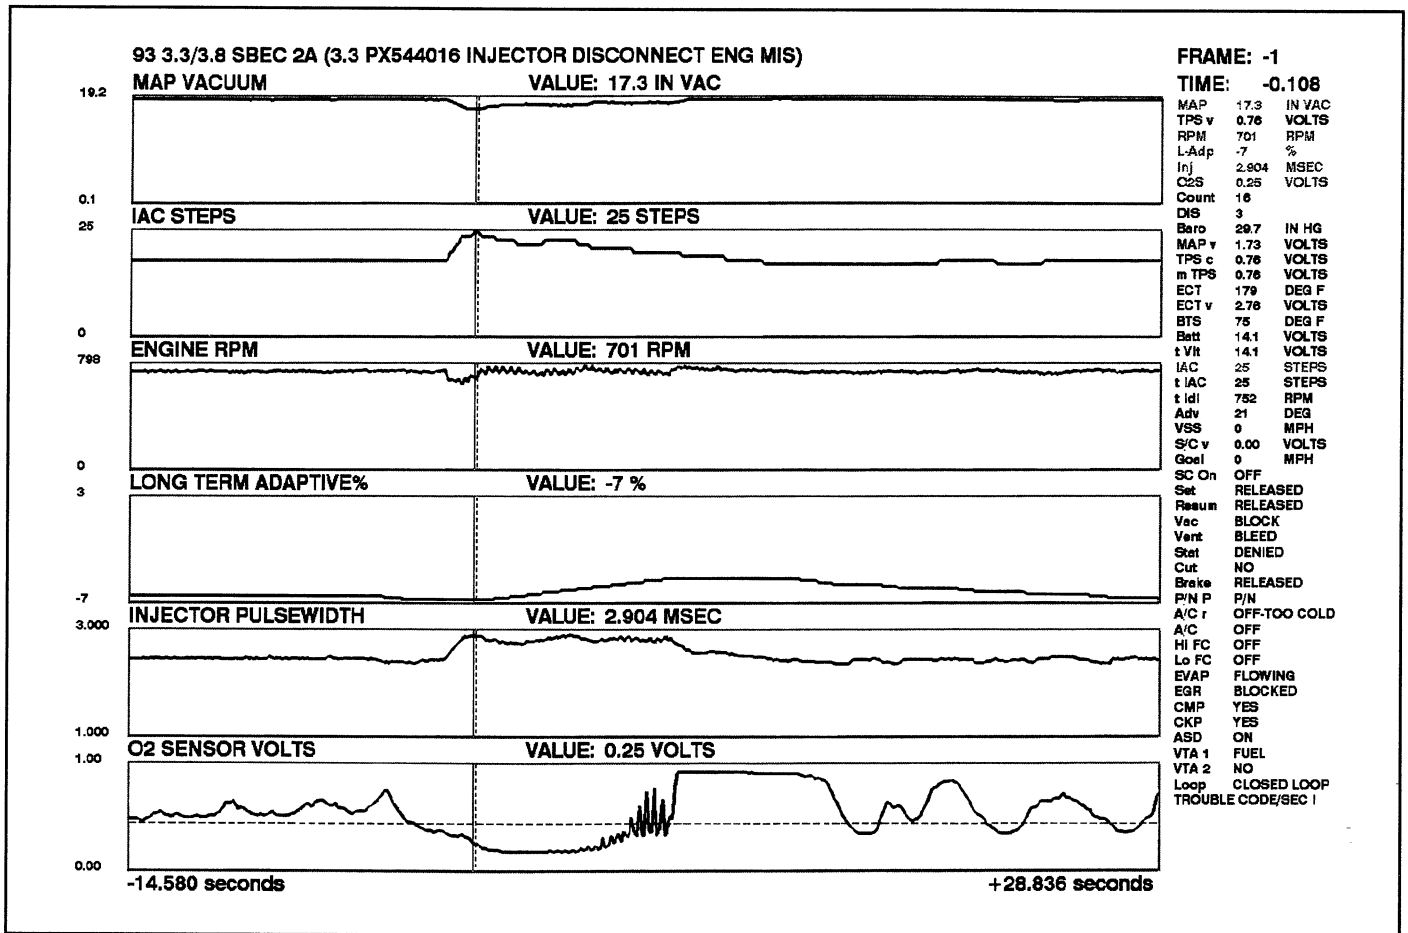

Fig. 10
- Secondary ignition or injector failure (Figures 10 & 11)